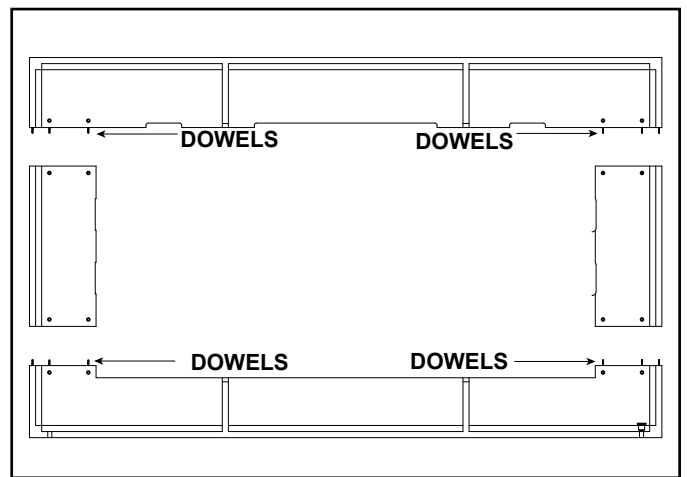

Figure 11 Insert Wooden Dowels
1. Prepare a non-marring surface to lay out the four (4) surround pieces, face down. Install plug if hole is not needed for power cord.
2. Insert wooden dowels (12) between the top, bottom, and side pieces of the surround as shown and slide pieces together. See Figure 11.